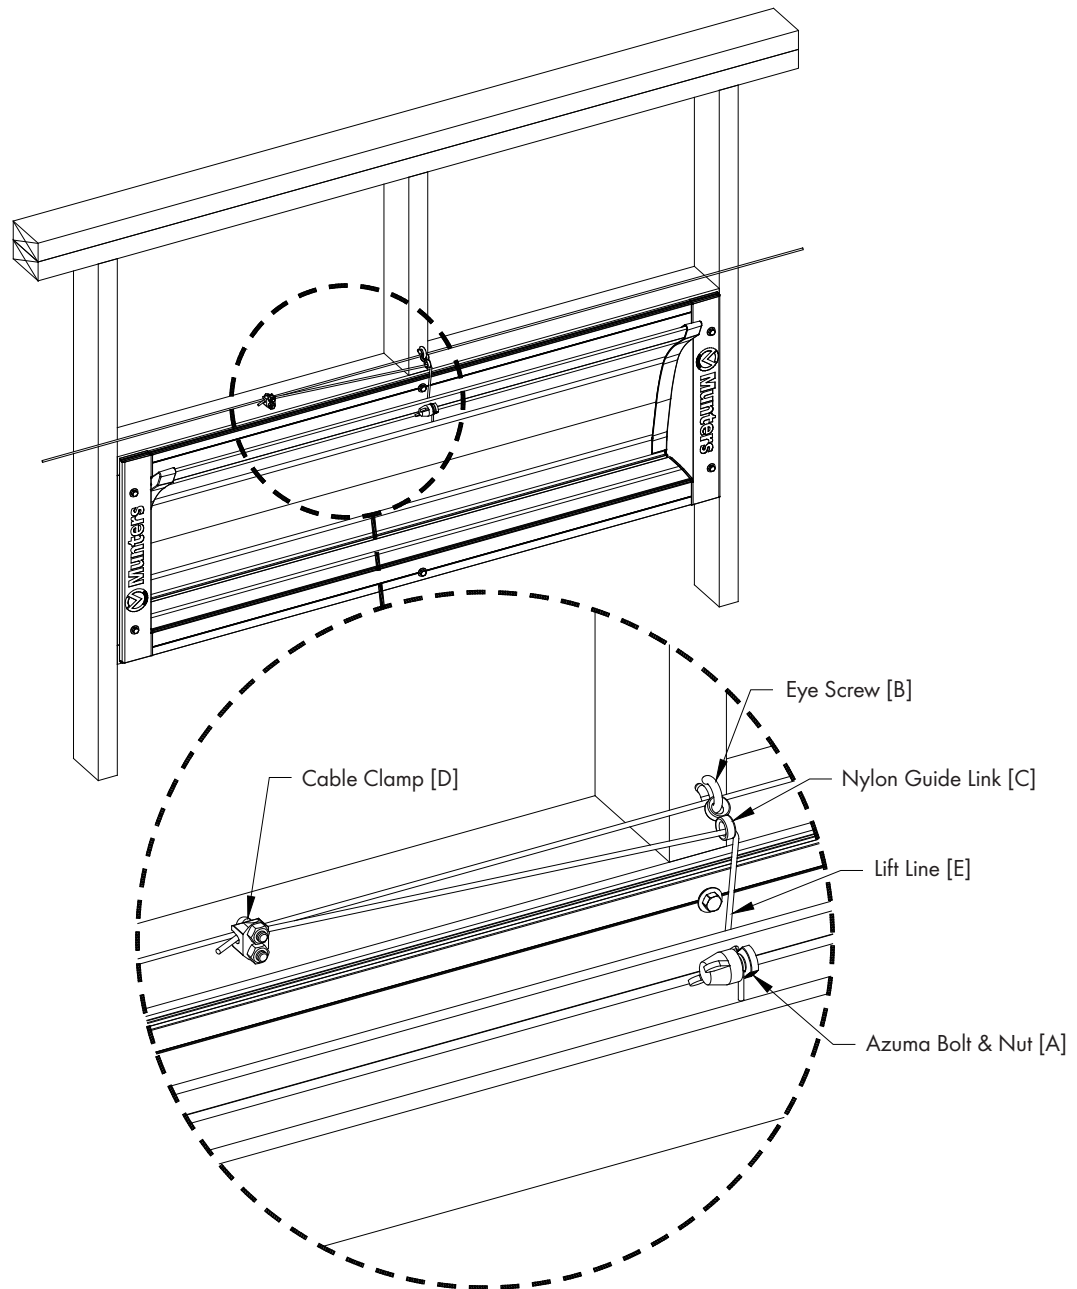

Figure 13A
Put a Nylon Guide Link [C] (black) on each Screw Hook [B] that is directly above the center of each inlet. Attach one Lift Line [E] to Main Cable using (1) Cable Clamp [D]. Lift line should be attached 14" back from hook toward the winch end. Run each lift line through the adjacent Nylon Guide Link [C] and attach Azuma Bolt and Nut [A]. See Figure 13A and 13B.